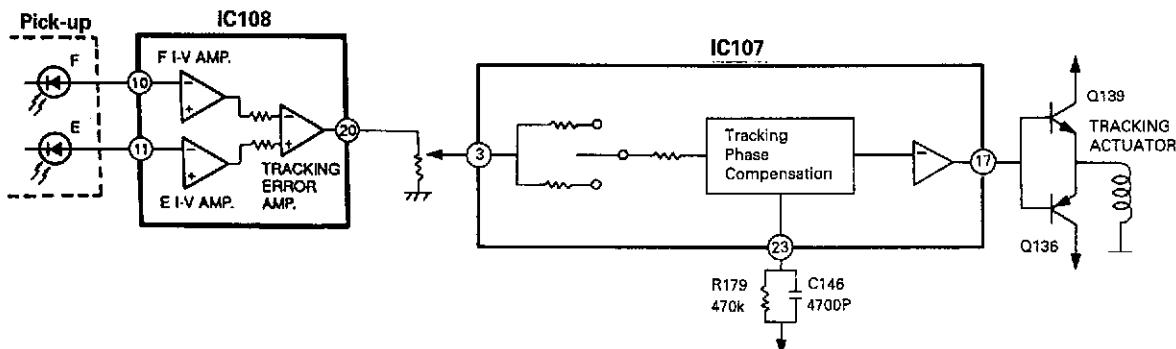

Fig. 6
- 1) Remove 3 screws (① to ③).
- 3) Remove 3 screws (④ to ⑥).
- 4) Turn to the clockwise gear loading of the assembly lock gear (see figure 6).
4. Remove the loading table (Figure 6).
When a tracking error signal is detected by photodiodes E and F, it is fed to pins 11 and 10 of IC108 respectively as shown in Fig. 6. In IC108, the signal is converted into voltage by the E I-V amplifier and F I-V amplifier, transmitted to the tracking error amplifier and output through pin 20. While it passes through IC107, in from pin 3 and out from pin 17, it is amplified in IC107 and sent to the tracking coil to adjust pickup so that the amount of track shift is reduced as closely to none as possible.